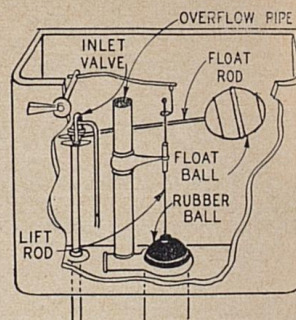

Fig. 64
1. **Cause:** Improper seating of rubber ball. Fig. 64.
- Replace rubber ball if worn. Fig. 64.